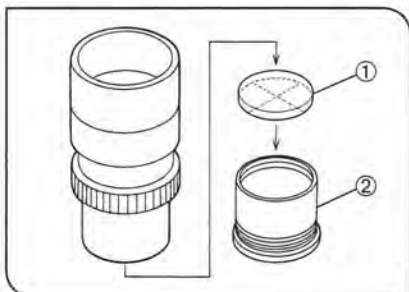

Fig. 24
(Fig. 24)
Following Fig. 24, turn the built-in micrometer mounting frame ② counter-clockwise to remove it from the eyepiece and place a micrometer disk ① into the mounting frame so that the surface with the model indication faces downward.